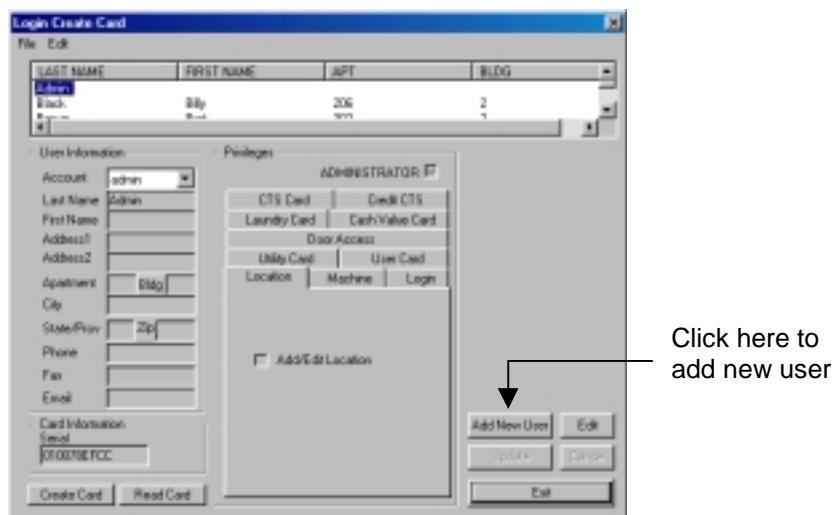

Figure 4.3 Adding a New User
3. Click the Add New User button (Figure 4.3).